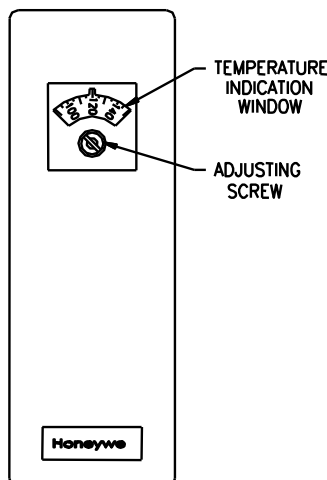

Figure 7 - Aquastat Control
- For the most energy efficient operation, adjust the aquastat for the minimum water temperature necessary to meet domestic hot water needs (refer to Figure 7). Use a small flat screwdriver to rotate the temperature dial through the hole directly below the temperature indication window. The temperature setting is aligned with the notch in this window. **IT IS NOT NECESSARY TO REMOVE THE COVER TO ADJUST THE TEMPERATURE SETTING. THE AQUASTAT COVER SHOULD NEVER BE REMOVED WITHOUT ELECTRICITY BEING FIRST DISCONNECTED.**